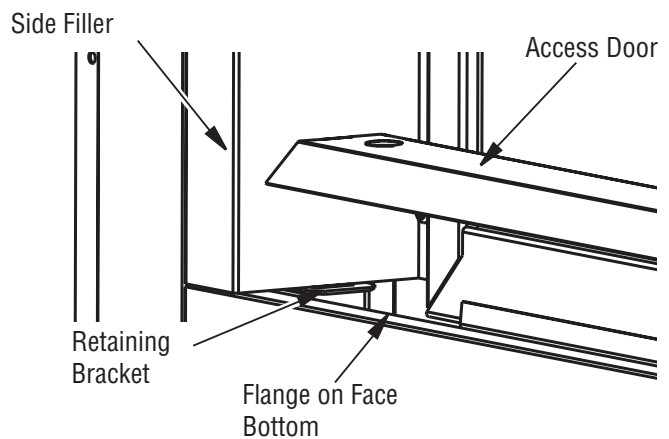

Figure 24 - Access Door for See-Thru Applications
1. Place access door in front of fireplace opening with the slanted side facing forward. The slanted surface will slide underneath the flange of the bottom face. Insert tabs on side of access door into slots on retaining brackets (See **Figure 24**).
2. Remove access door (see **Figure 24, Page 15**).